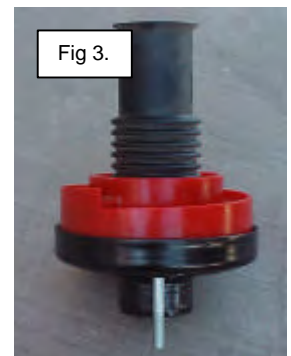

Fig 3.
11. Install the new Coil Spring Spacer to the upper strut mounting plate (Fig. 3).